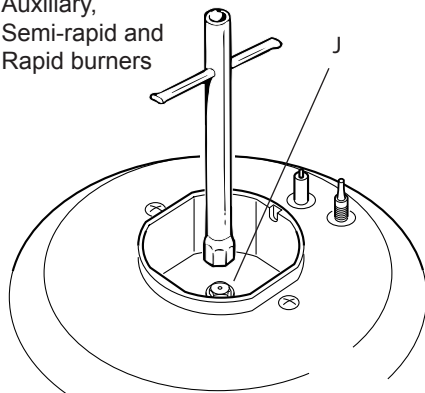

Fig. 9.5
- Using a wrench, substitute the nozzle injectors "J" (figs. 9.5, 9.6) with those most suitable for the kind of gas for which it is to be used.